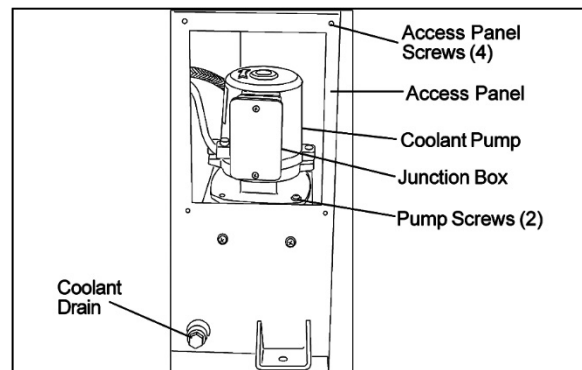

Figure 21: Coolant pump replacement
1. Remove four screws and the coolant pump access panel from the machine base (refer to Figure 21).